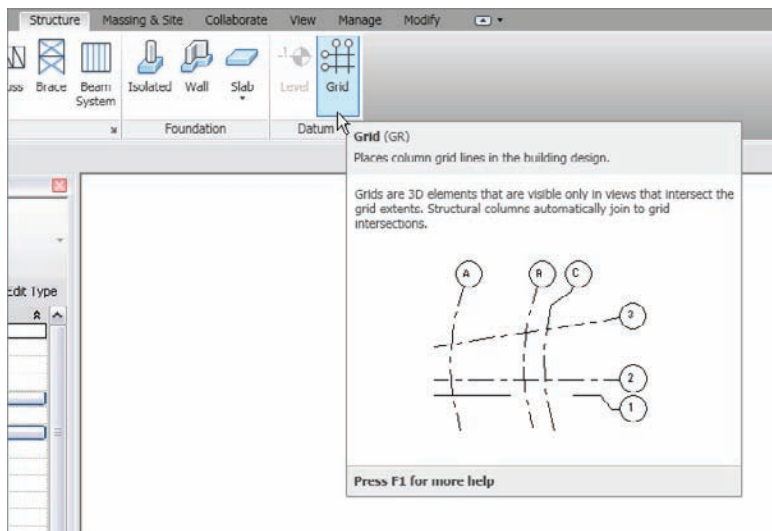

FIGURE 8.1 The Grid button on the Datum panel of the Structure tab
3. The Datum panel that holds the Level and Grid tools appears on the Home tab and the Structure tab. On the Datum panel of the Structure tab, click the Grid button, as shown in Figure 8.1.